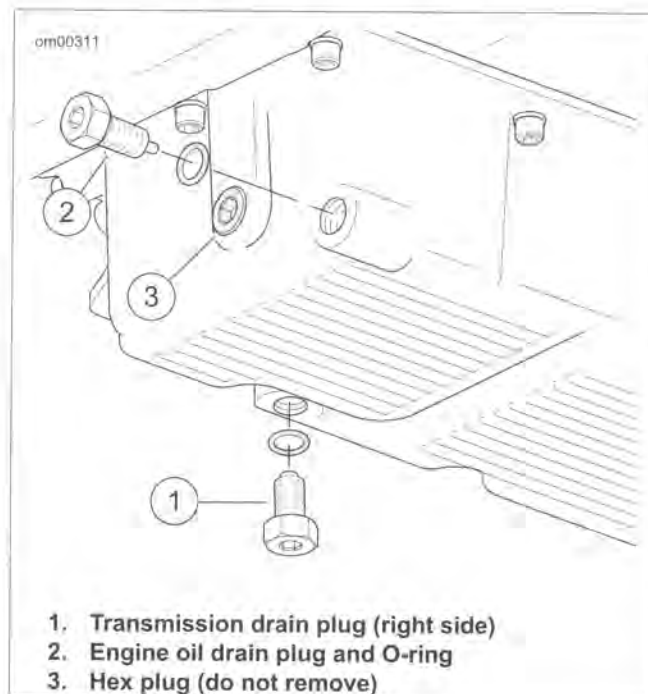

Figure 1-3. Oil Pan
3. See Figure 1-3. Remove the oil drain plug (2). Do not remove hex plug (3) or transmission drain plug (1). Allow oil to drain completely.